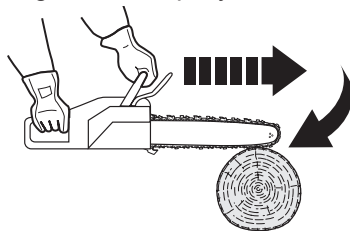

Fig. 33
1. Pinching of the saw chain (10) along the bottom of the guide bar (11) may pull the product forward away from the operator (Fig. 33).